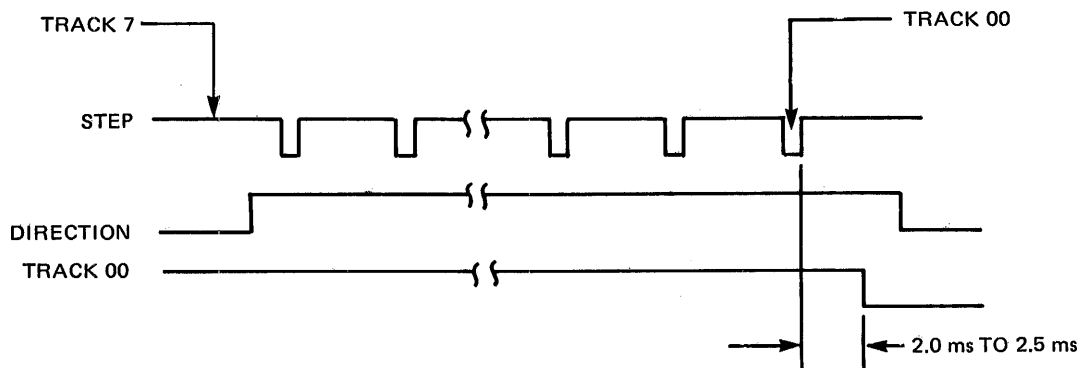

Figure 5-7 Track 00 Signal
- b. Check that the Track 00 signal occurs within 2.0 ms to 2.5 ms of the Step signal to track 00 (see Figure 5-7).